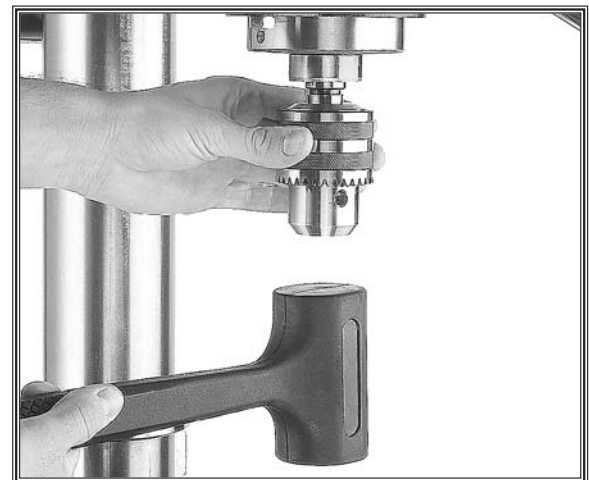

Figure 19. Seating the arbor and chuck into the spindle.
5. Using a rubber mallet, seat the chuck as shown in **Figure 19**.